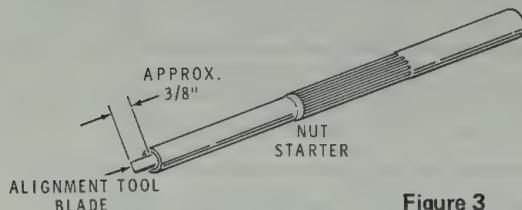

Figure 3
- (X) Refer to Figure 3 and push the alignment tool blade into the small end of the nut starter as shown. This will be used as an alignment tool in the following steps.